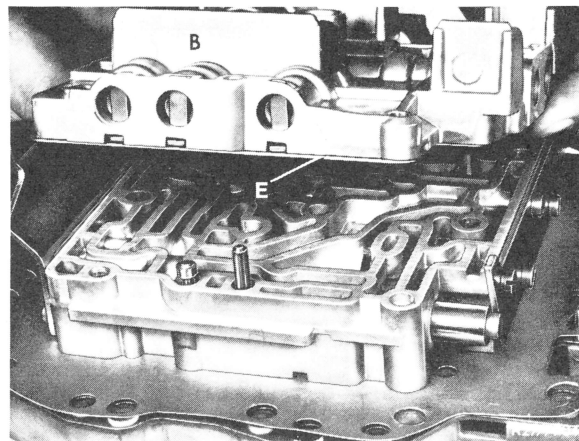

Fig. 3
**3** Unscrew the two remaining hex. bolts from bottom and lift top (B) off together with intermediate plate (E) (Fig. 3).
**4** Take off intermediate plate (E) and remove filter (50) together with spring (Fig. 3 and 4).